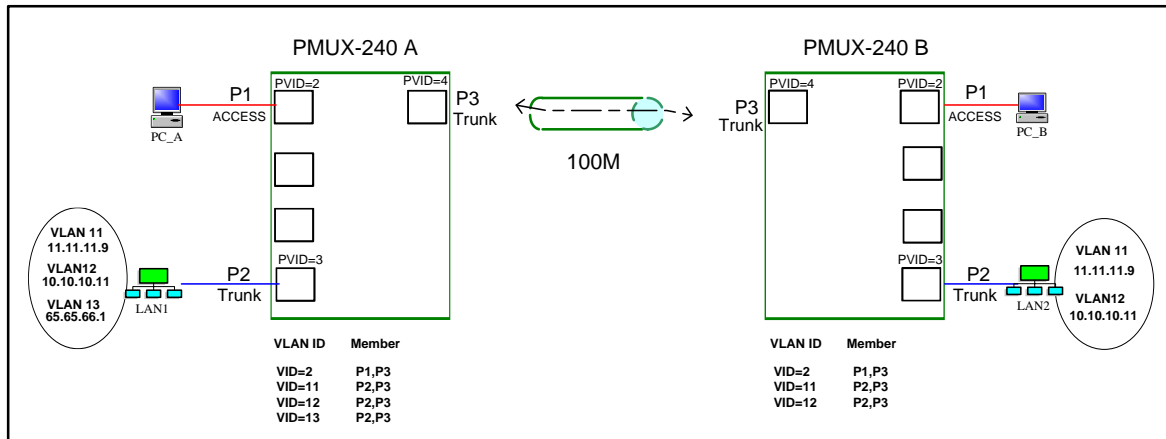

Fig. 5-4-2-2-1 Typical Application for 802.1Q Tag-based VLAN
As Fig. 5-4-2-2-1 shows, the port P1 of the two equipments connects to a PC separately, and port P2 connects to a LAN separately. The following communication can be implemented.
- 1) Port P1 in Fig. 5-4-2-2-1 is LAN1 port, P2 is LAN4 port, and P3 is WAN1 port;
- 2) Port P2 of PMUX-240 (A) belongs to three different VLANs: VLAN11, VLAN12 and VLAN13; port P2 of PMUX-240 (B) belongs to VLAN11 and VLAN12. The isolation of the three VLANs is implemented by other routers.